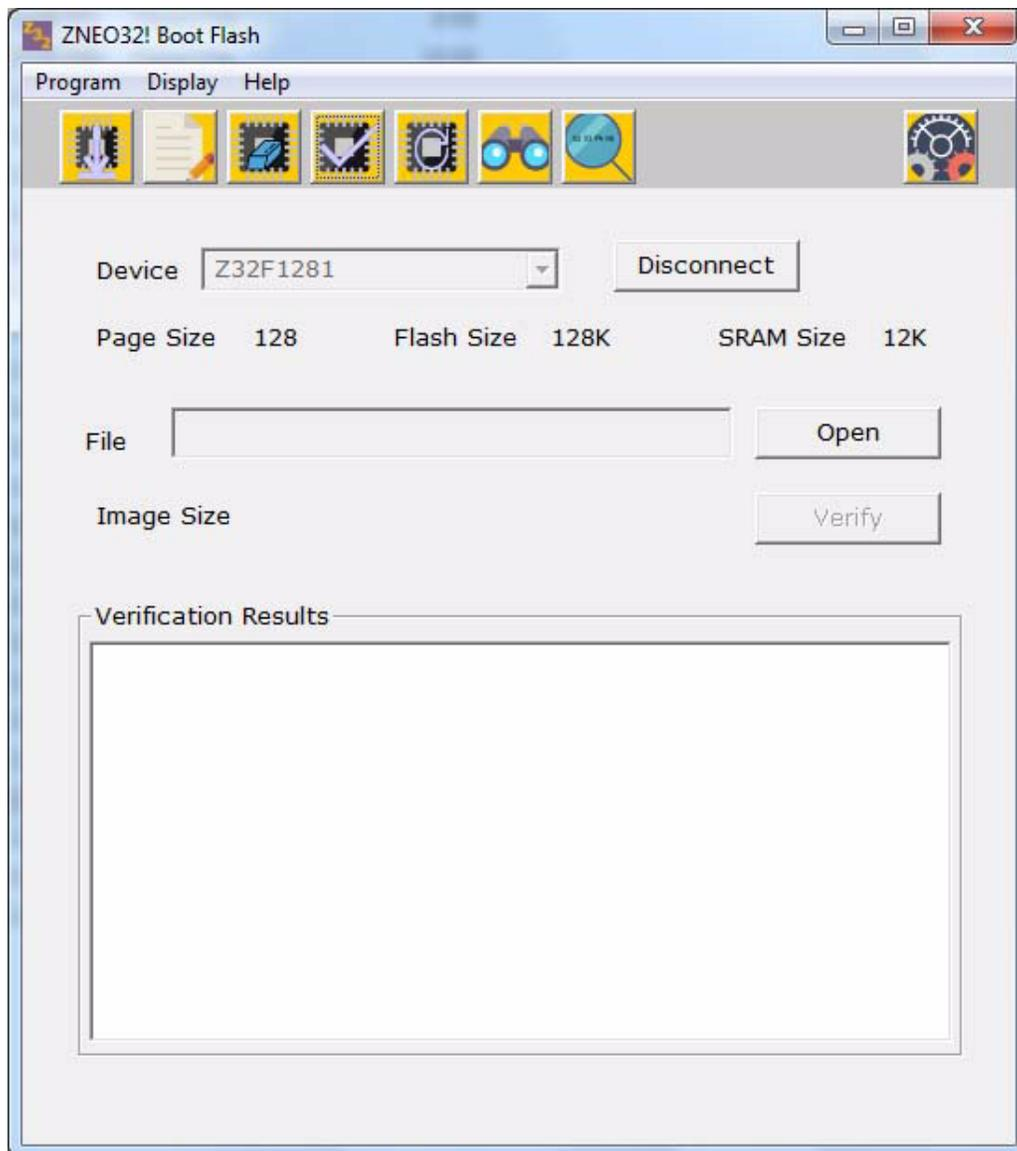

Figure 19. Verify Screen
1. Click **Open** to select a file to load the Flash image to compare to. See Figure 19.